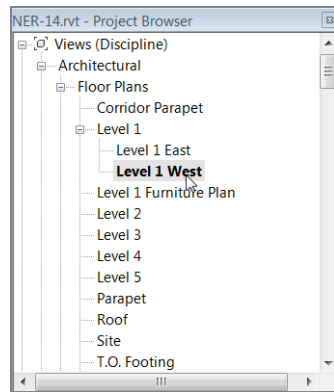

FIGURE 13.2 : Creating the two views dependent on Level 1
4. Select **Duplicate View** ➤ **Duplicate As A Dependent**. You now have two views nested under Level 1 (see Figure 13.2).
5. Right-click **Dependent (2)** on the Level 1 dependent view.
7. Rename the other dependent view **Level 1 West** (see Figure 13.2).